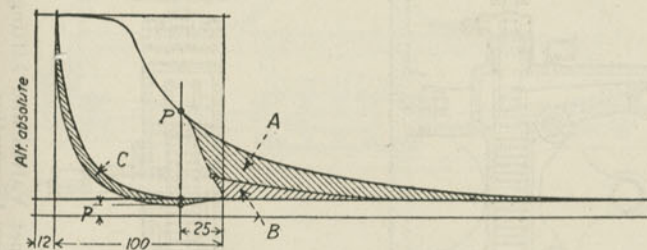

Fig. 417. Back Pressure Diagram.
*A.* As given in Fig. 417 in which the shaded areas *A* and *B* combined represent cylinder loss due to incomplete expansion. Since the exhaust ejector is effective during only a part of the exhaust period, the area *A* represents all that loss which can be used to create a vacuum in the other cylinder; area *B* being lost. On the return stroke the shaded area *C* represents the gain due to the reduced back-pressure caused by the exhaust of the other cylinder.